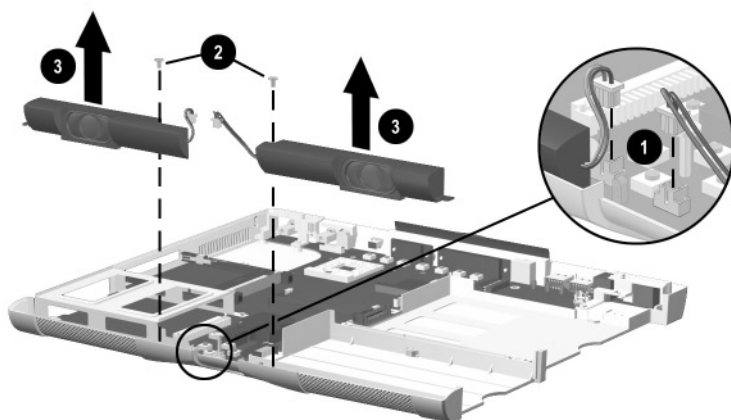

Figure 5-21. Removing the Speaker Assemblies
2. Disconnect the speaker cables ❶ from the system board (Figure 5-21).
3. Remove the gold M2 × 5 screws ❷ that secure the speaker assemblies to the base enclosure.
4. Remove the speaker assemblies ❸.